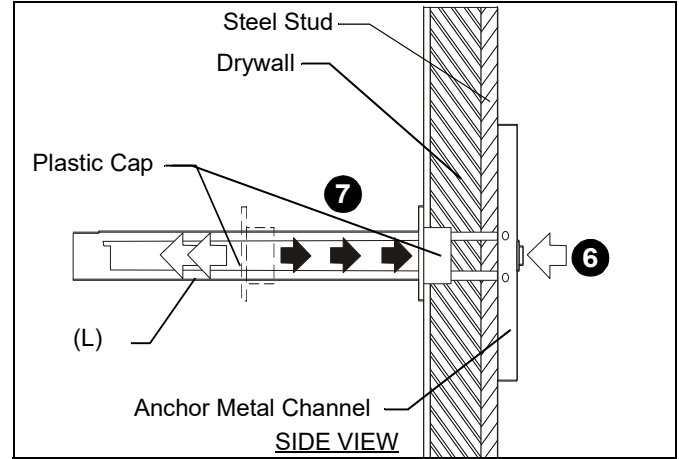

Figure 21
6. Holding plastic straps on anchor (L), pull anchor away from wall until channel rests flush behind wall making sure anchor channel is positioned vertically on stud. (See Figure 21)
7. Slide plastic cap on anchor (L) towards wall until flange of cap is flush with wall. (See Figure 21)